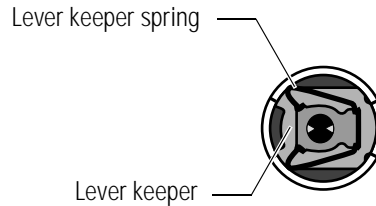

Figure 3.15 Lever keeper spring in position
2. Use a pair of needle-nosed pliers to insert the lever keeper spring into the sleeve. Using the pliers, work the spring into position so that the spring is gripping the lever keeper. See Figure 3.15.